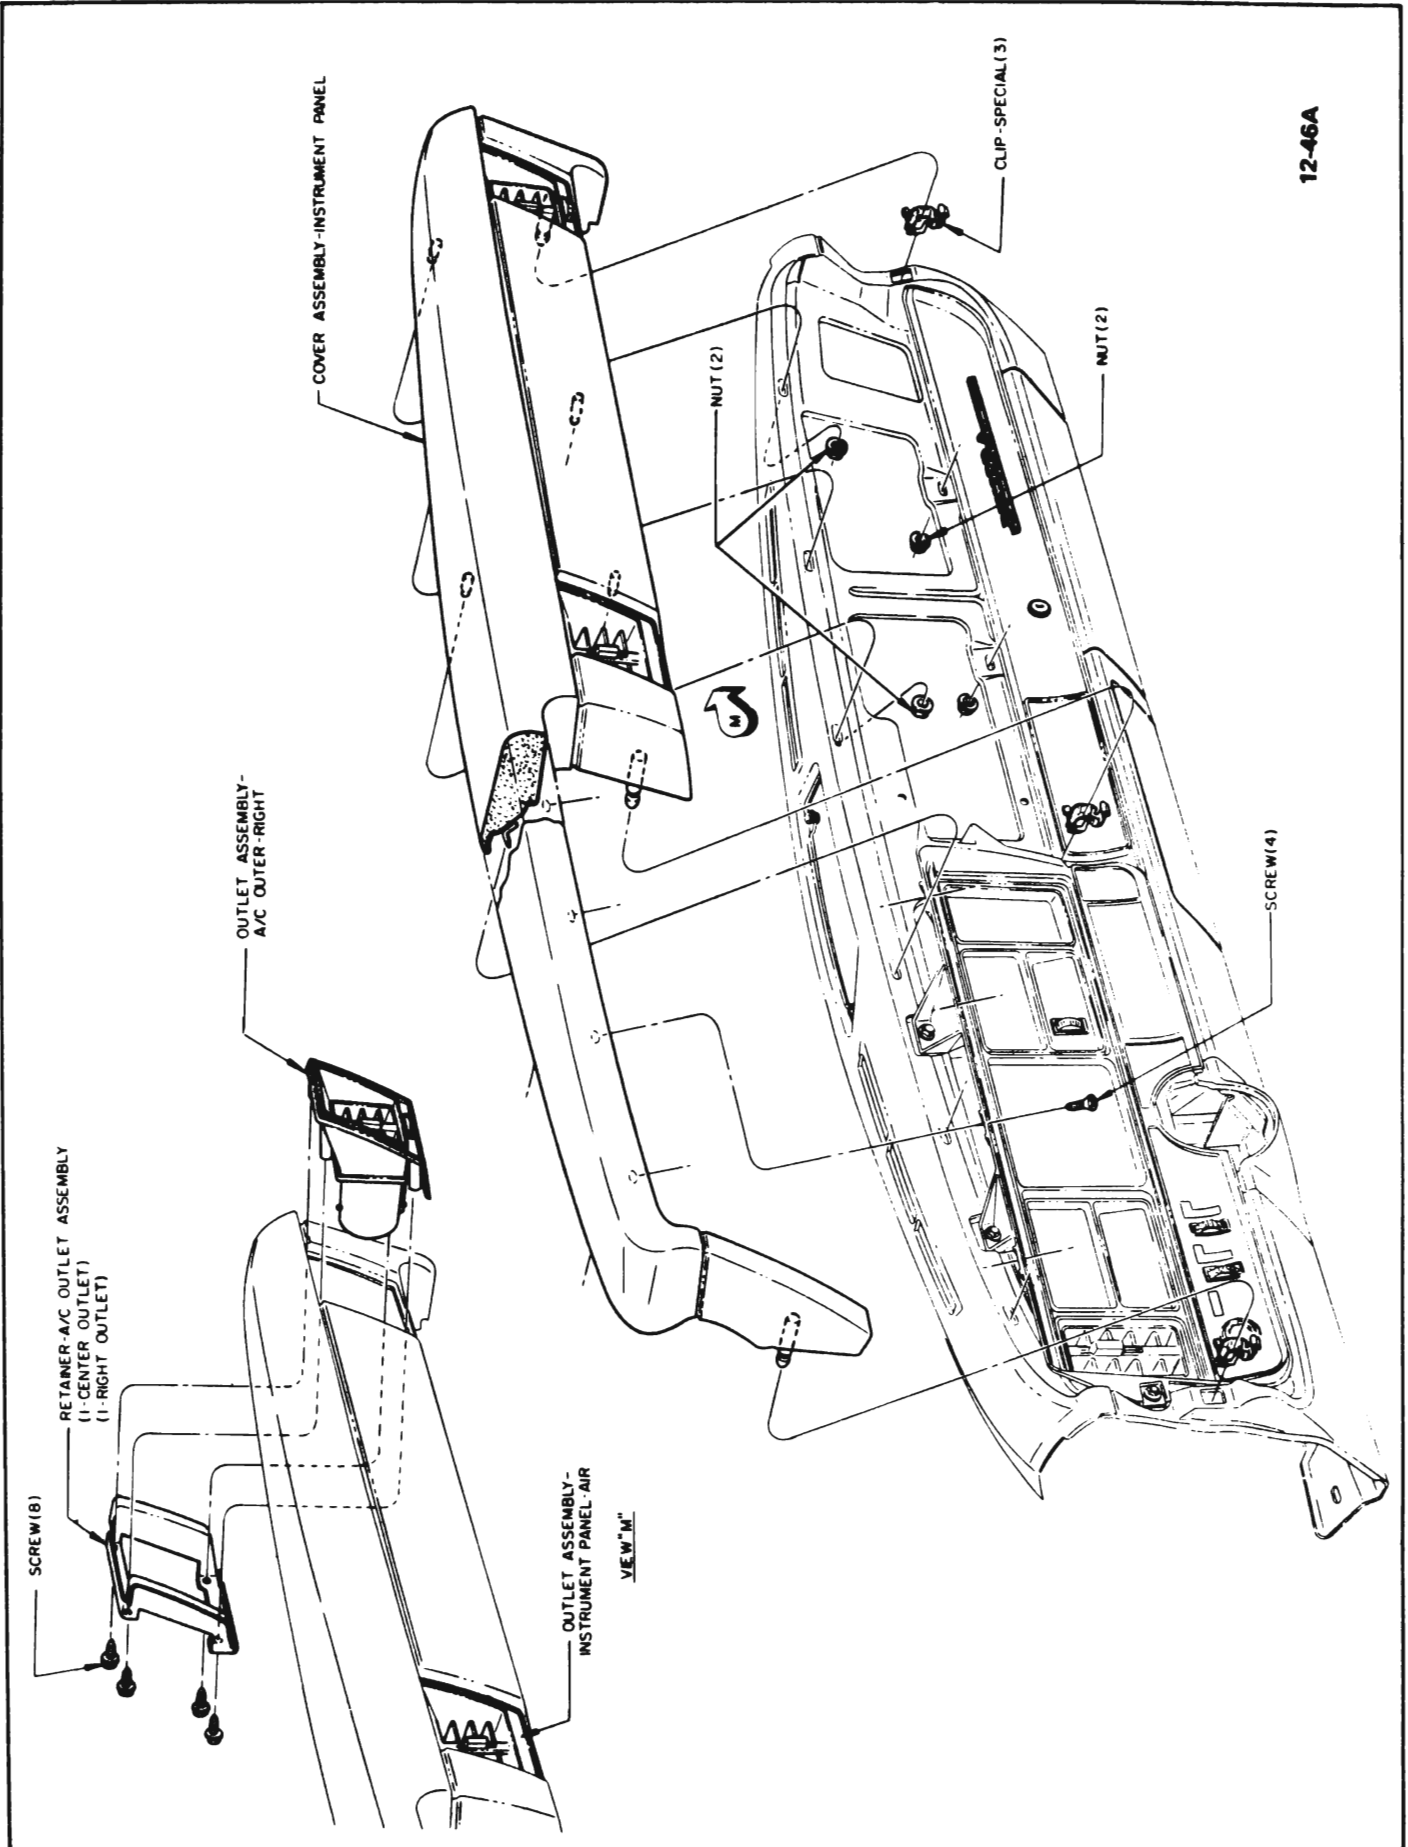

Figure 13-202 49000 Series Instrument Panel Cover
- b. (49000 Series) Remove control protection cover. See Figure 13-202.